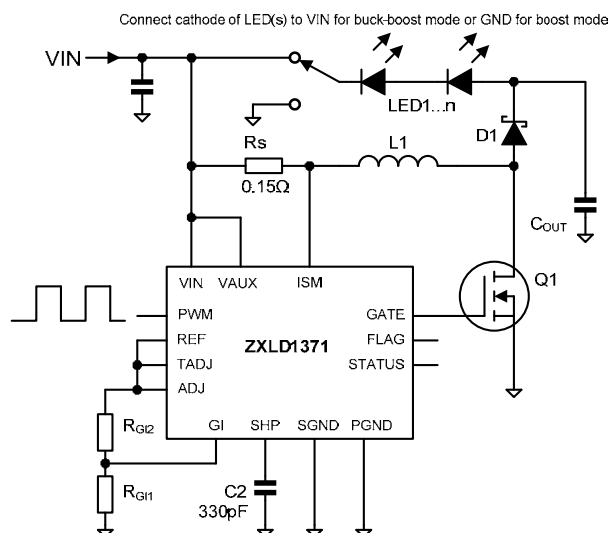

Figure 3. Boost and Buck-boost configuration
b) Boost and Buck-Boost modes – the most simple boost/buck-boost circuit is shown in Figure 3
The average current in the LED, I_{LED} , is always less than I_{RS} . The feedback control loop adjusts the switch duty cycle, D, to achieve a set point at the sense resistor. This controls I_{RS} . During the interval t_{OFF} , the coil current flows through D1 and the LED load. During t_{ON} , the coil current flows through Q1, not the LEDs. Therefore the set point is modified by D using a gating function to control I_{LED} indirectly. In order to compensate internally for the effect of the gating function, a control factor, GI_ADJ is used. GI_ADJ is set by a pair of external resistors, R_{GI1} and R_{GI2} . (Figure 3.) This allows the sense voltage to be adjusted to an optimum level for power efficiency without significant error in the LED controlled current.